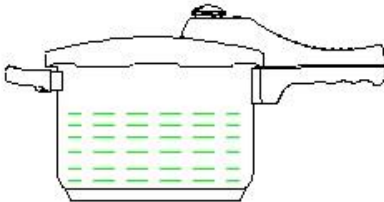

Fig. 1.
- **2/3 of the capacity - standard dishes (Fig. 1).**